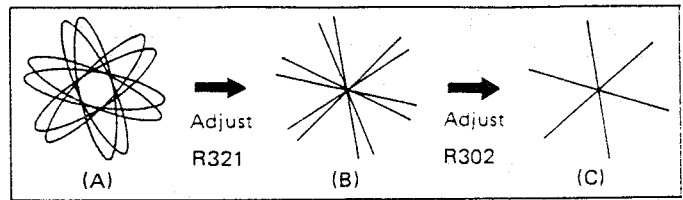
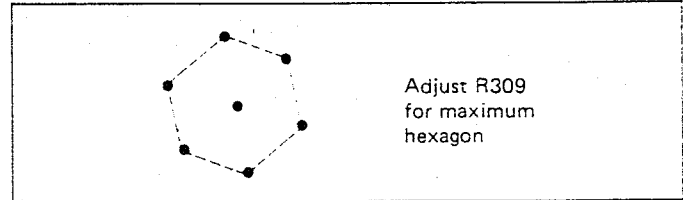

Fig. 13
Fig. 14
4. Adjust GAIN BALANCE VR (R321) so that the figure becomes (B) from (A). (Fig. 13)
5. Adjust T302 so that the figure becomes (C) from (B).
8. Adjust PHASE VR (R309) to obtain the maximum hexagon. (Fig. 14)